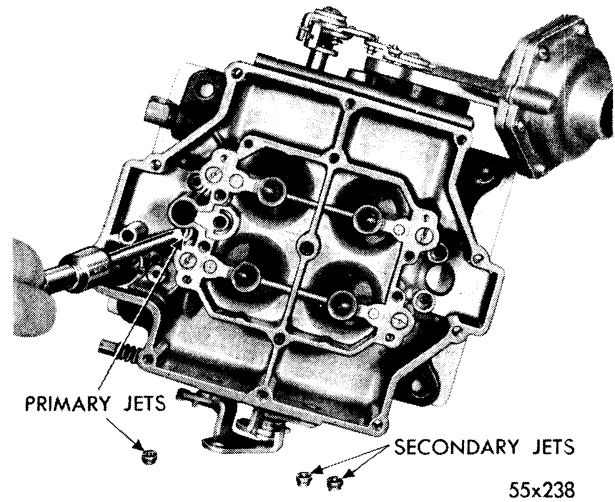
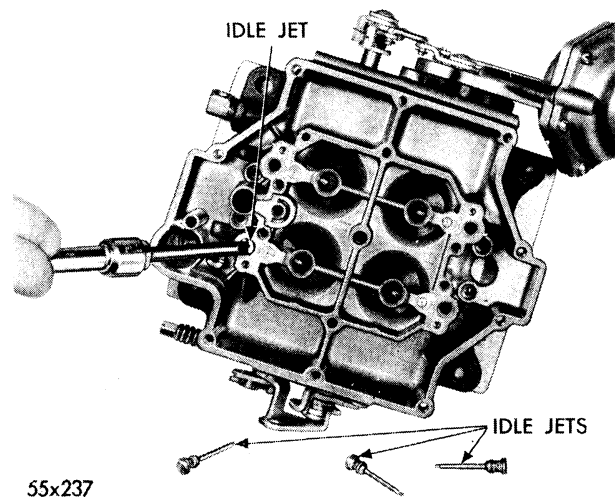

Fig. 25—Installing Primary and Secondary Main Metering Jets
Fig. 24—Installing Primary and Secondary Idle Jets
- (2) Install the primary and secondary idle jets (refer to Fig. 24).
- (3) Tighten securely, using Tool T-109-58.
- (4) Install the primary and secondary main metering jets (refer to Fig. 25). Tighten securely, using Tool T-109-58.
- (5) Remove the accelerator pump plunger from the jar of gasoline and flex the leather several times. Check to see if the leather is hard, cracked, or worn. If any of the aforementioned conditions exists, install a new accelerator pump plunger. Test the operation of the accelerator pump as follows: